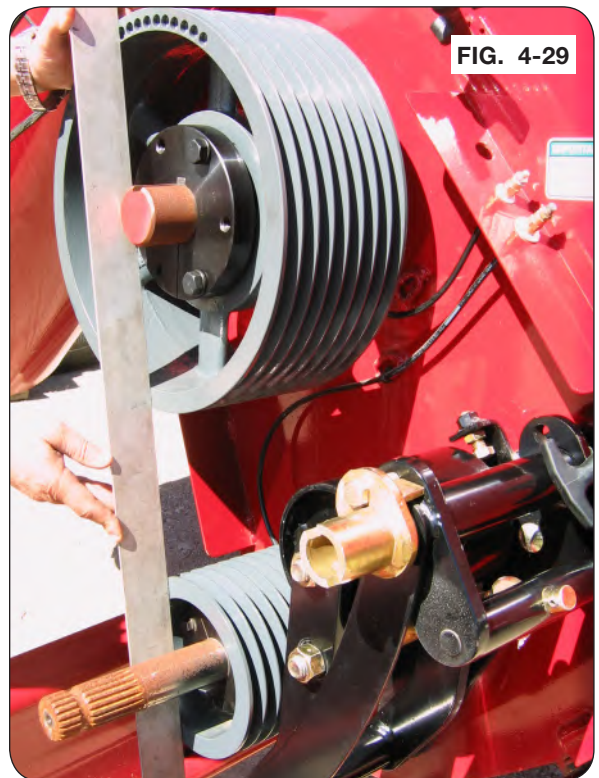

FIG. 4-29
2. After tightening taper-lock bushing hardware, lay a straight edge across face of the drive and driven belt pulleys to ensure alignment between the grooves on the pulleys. (FIG. 4-29)